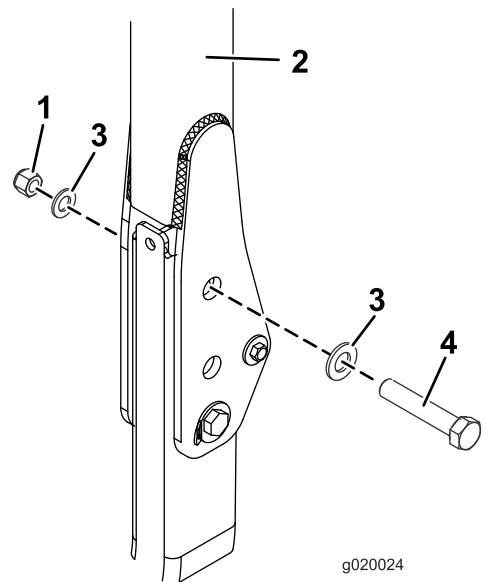

Figure 30
4. In the holes where the pins were removed, install the bolts and washers (Figure 30).
5. Install another washer onto each bolt and secure with nut (3/4 inch) as shown in (Figure 30). Torque the nuts 323 to 396 N·m (238 to 292 ft-lb).
6. Torque the ROPS pivot bolt (Figure 30) 91 to 113 N·m (67 to 83 ft-lb) to avoid any bouncing of the roll bar and sunshade.
3. Insert a washer (13/16 x 1-1/2 inches) onto each bolt (3/4 x 4 inches) as shown in Figure 30.